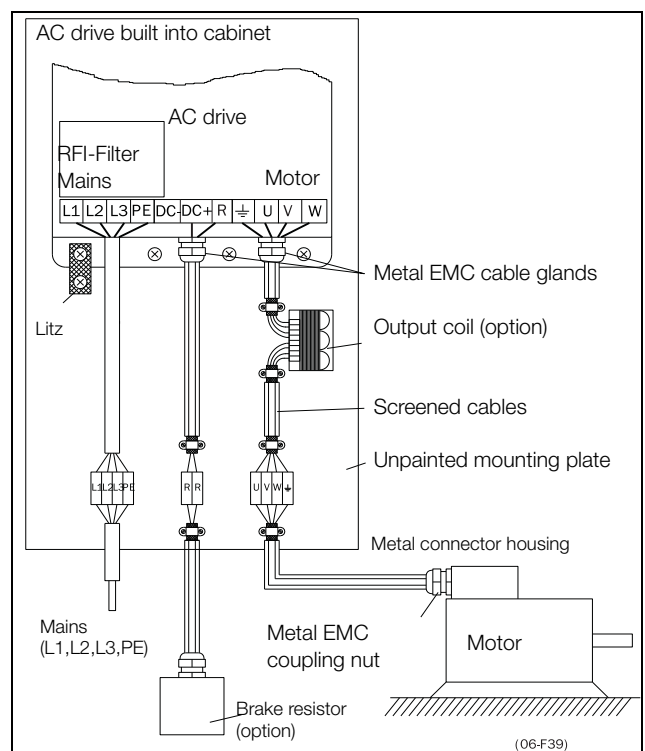

Fig. 42 AC drive in a cabinet on a mounting plate.
- The litz ground connection see fig. 42, is only necessary if the mounting plate is painted. All the AC drives have an unpainted back side and are therefore suitable for mounting on an unpainted mounting plate.
- The litz ground connection, see fig. 42, is only necessary if the mounting plate is painted. All the AC drives have an unpainted back side and are therefore suitable for mounting on an unpainted mounting plate.
If the motor cables are to be interrupted by maintenance switches, output coils, etc., it is necessary that the screening is continued by using metal housing, metal mounting plates, etc. as shown in the fig. 42.
- If the AC drive is mounted in a standard cabinet, the internal wiring must comply with the EMC standard. Fig. 42 shows an example of a AC drive built into a cabinet.